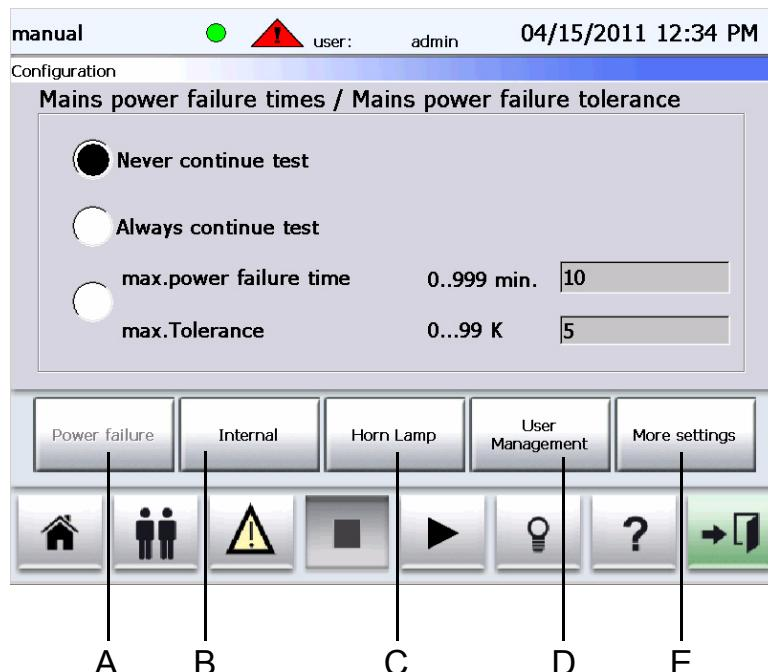

Fig. 3-3
- refer to chapter 3.2.2 , Fig. 3-3 (page 19)